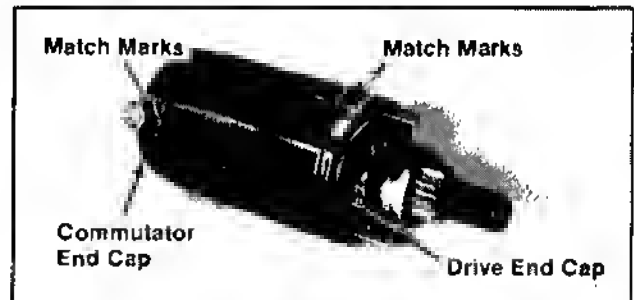

Figure 8-20. Starter Assembly Match Marks.
2. Install the thrust washer and drive end cap. Make sure the match marks on end cap and frame are aligned. Refer to Figure 8-20.
5. Make sure the match marks on end cap and frame are aligned. Refer to Figure 8-20. Install the thrust bolts and tighten securely.